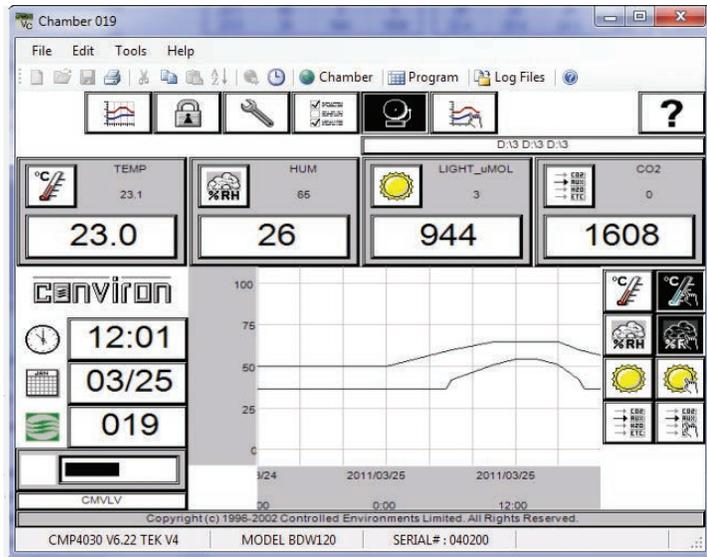

Figure 2.2: CMP5090 Status display
4. A pop-up window will appear warning "Net Address changed you must cycle power". "Select" OK to proceed. After the restart the new Unit ID will be shown on the Controller status display, Figure: 2.2 CMP5090 Status Display.